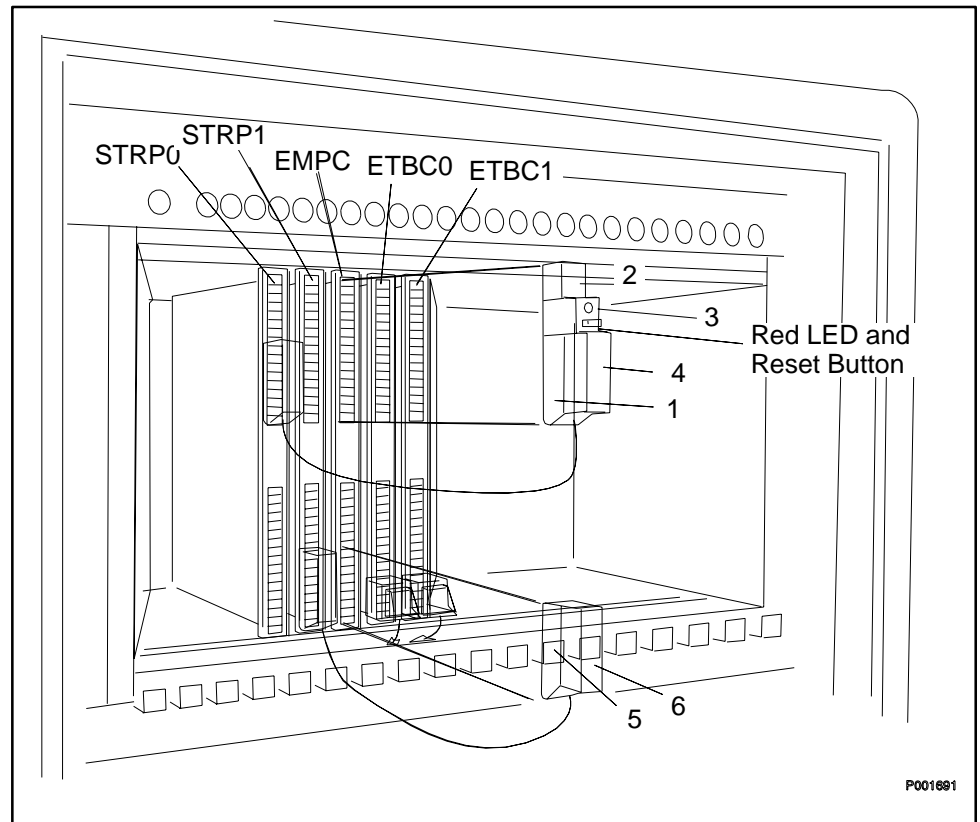

Figure 15 Strapping EMPC without EMRPS board:
To set the address strapping plug, RNV 991 03 is used. Strapping versions RNV 991 03/n (n=1-32) correspond to addresses 0-31. For positioning of the strapping plug, see item 2 in figure 15.
A strapping plug, RNV 991712/001, is used for LED indication on working status and reset of the EMPC. For positioning of the strapping plug, see item 3 in figure 15.
Each EMRPB is to be terminated by means of a strapping plug, RNV991223/004. For positioning of the strapping plugs, see items 4 and 6 in figure 15.